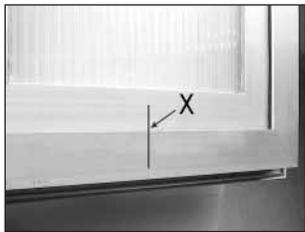

Fig. 2
- A. Pencil in an "X" over the centre line of the window frame (Fig. 2) or divide the frame in 3 parts in case of Kato Syncro mounting.